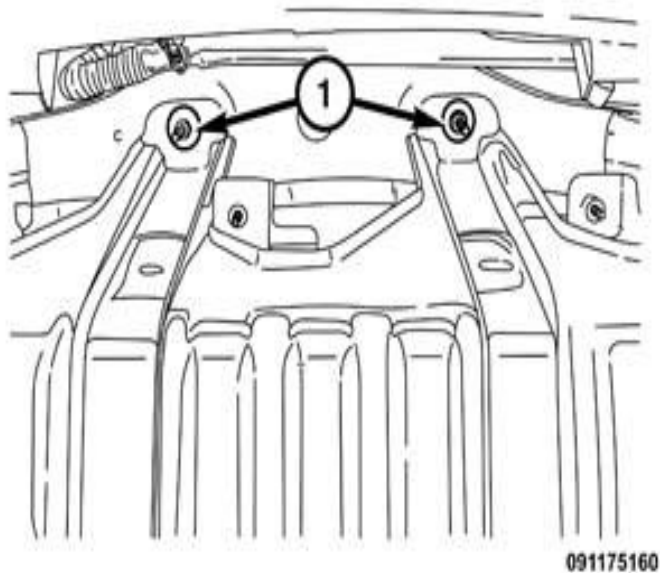

Fig. 8 Rear Tank Mounting Bolts
15. Remove the rear DEF tank mounting bolts (1) (Fig. 8).